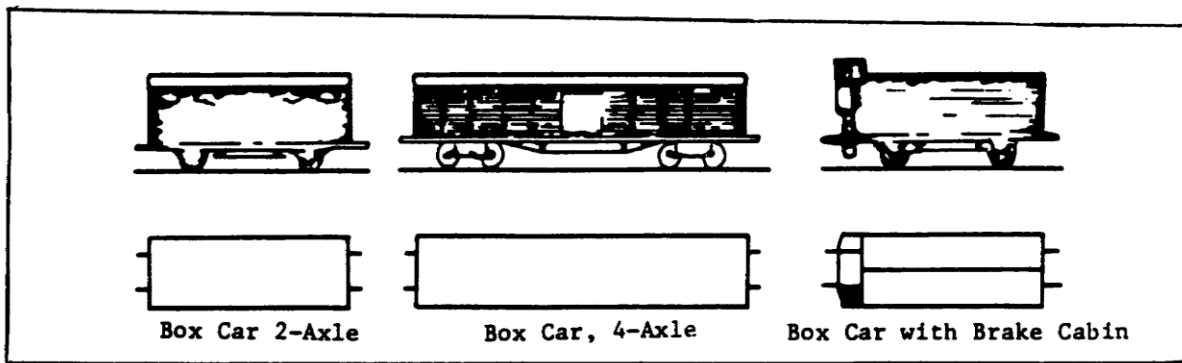

Figure 1-37. Boxcars.
a. Boxcars have a flat or slightly rounded top and are square-ended, covered cars. Some have catwalks on top. Sizes vary from 27 to 50ft in length (Figure 1-37).
8.	C. This is a roof covered boxcar. The door is open, ready to discharge or load freight (page 27, para 5/fig 1-37).